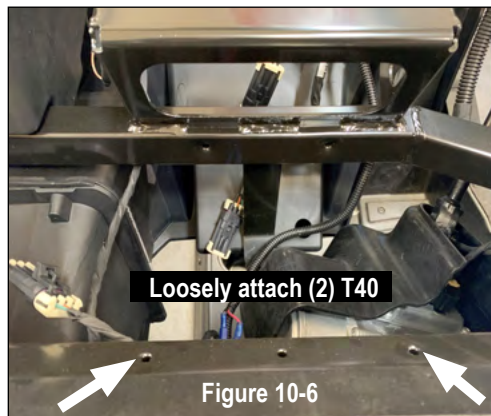

Figure 10-6
- If you have NO Dynamix ECU or OEM installed amplifier, use the (2) T40 screws provided in the MB Quart RZR Stage 5 kit as shown in Figure 10-5. These screws attach the amplifier plate in the two identified holes as shown in Figure 10-6.